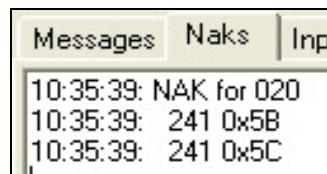

Figure 37: Naks Tab – Unsuccessful Base Configuration
- Check the *Naks* tab to see if the receiver rejected the configuration (see Figure 37).